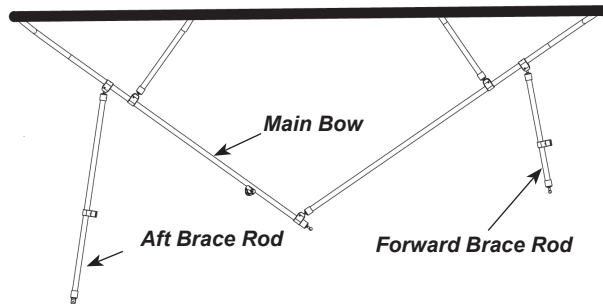

Figure O1: Bimini Top without Hardtop
1. Attach the bimini main bow to the ball & socket mounts (if not already attached) and unboot the bimini from its canvas storage boot. See Figure O1.